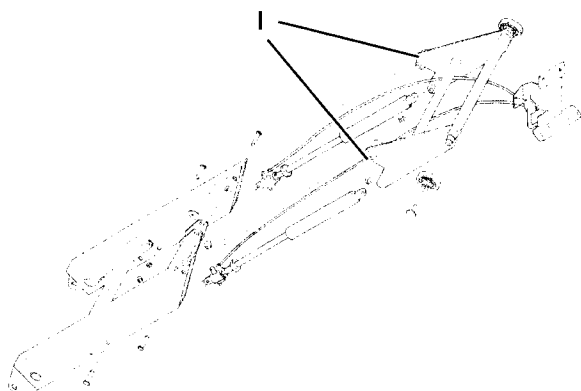

Figure 1
2. Remove the two Truarc rings which hold the cylinders and release the cylinders (see figure 1).